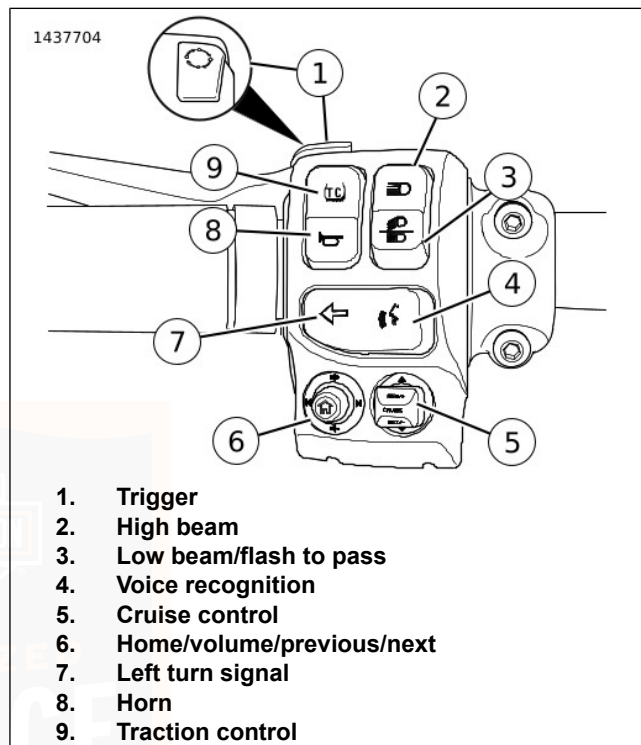

Figure 31. Left Hand Switch Module (typical)
See Figure 31. **Vehicle off:** Press the trigger switch (1) to display the accumulated mileage in the odometer.
See Figure 31. Press the high beam switch (2) to activate the high beam. The (blue) high beam indicator lamp is lit when the high beam is on. Refer to Table 27.
Low beam: See Figure 31. Press the bottom of the switch to (3) activate the low beam.
See Figure 31. The voice recognition switch (4) activates the voice recognition features on equipped vehicles. With a headset connected, press the voice command switch. The radio shows a list of available commands. Speak the desired command into the headset microphone. See the BOOM! BOX OWNER'S MANUAL.
See Figure 31. The CRUISE/SET/RESUME switch (5) automatically regulates the speed of the vehicle. See OPERATION > CRUISE CONTROL (Page 105) for detailed operation. Refer to Table 27
See Figure 31. The HOME/VOLUME/PREVIOUS/NEXT (6) five-way switch operates radio features on equipped vehicles. See the BOOM! BOX OWNER'S MANUAL.
Activate: See Figure 31. Press the left turn signal switch (7) to activate the left turn signal. Refer to Table 27.
See Figure 31. The horn is operated by pressing the horn switch (8). The horn can be activated for up to 10 seconds at a time. If the horn switch is held for a longer period, the horn automatically deactivates. Refer to Table 27.
See Figure 31. The traction control switch (9) activates and deactivates the traction control system. Refer to Table 27.
The trigger switch is located on the front of the left hand control. See Figure 31.